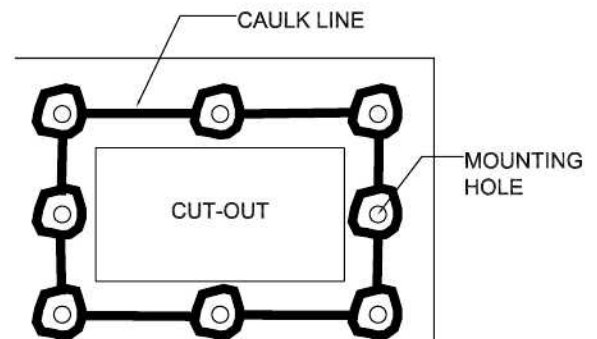

Figure 24. Caulk Line
10.1.1 Seal the busway flange and enclosure interface using a weather proof caulk. Apply a generous bead of caulk around the enclosure cutout and mounting holes (Figure 24). After all mounting hardware is installed, apply caulk around the perimeter of the flange plate and cover all mounting hardware or unused holes with caulk.